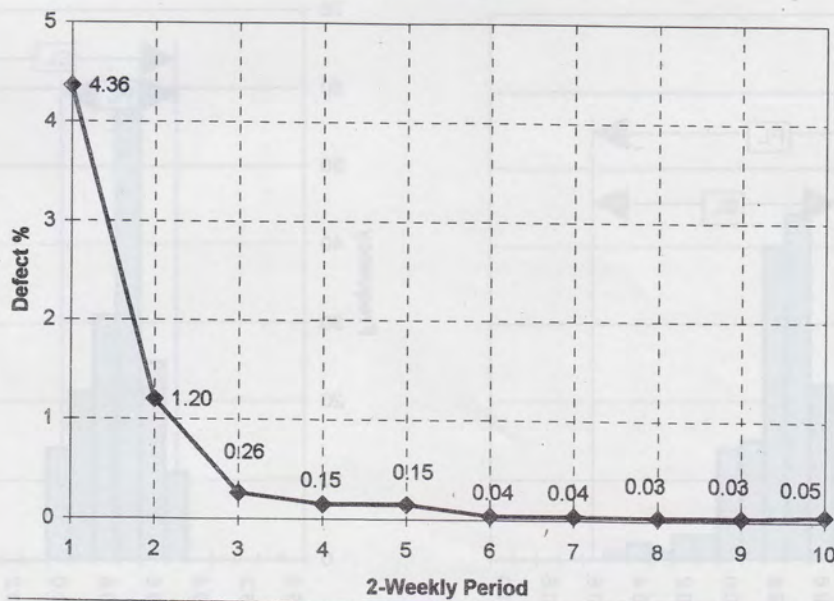

Figure 5 : Trend of Improvement (12th December 1996 to 23 April 1997)
- f) After implementation of other improvement measures including strict supervision of operators, the analysis of daily data as of 23rd April, 1997 revealed the defect percentage dropping down to 0.05%. [Refer to Figure 5 : Trend of Improvement]